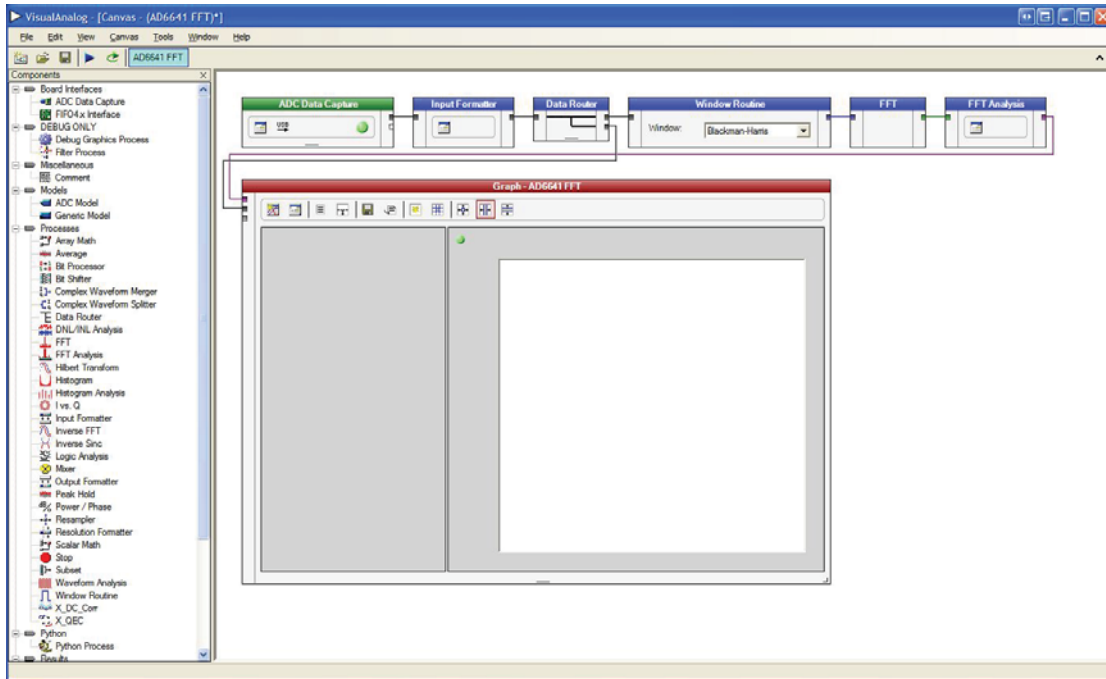

Figure 7. VisualAnalog, Main Window
3. To change features to settings other than the default settings, click the **Expand Display** button, located on the bottom right corner of the VisualAnalog window, to see what is shown in Figure 7.
1. Click the **Settings** button of the **ADC Data Capture** block in the VisualAnalog main window (see Figure 7).